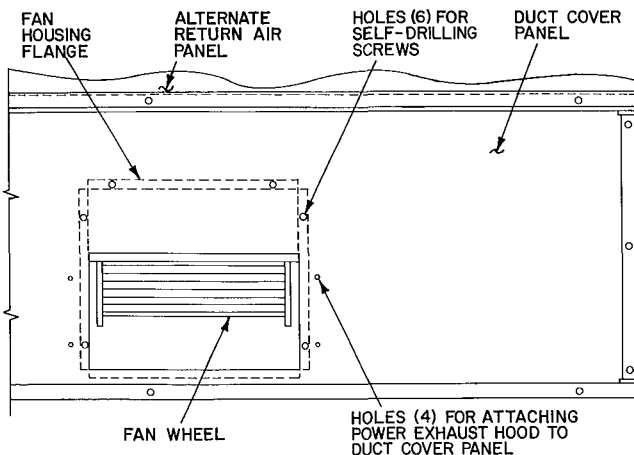

Fig. 12 — Duct Cover Panel Details
- 10. Using screws removed in step 1: Install insulated accessory duct cover panel(s) (Fig. 12). Panel openings should be free of insulation. Attach duct cover panel(s) to unit at bottom and sides.
11. Using #10-16 x 7/16-in. self-drilling screws (or by drilling holes), secure duct cover panel(s) to fan housing flanges as shown in Fig. 12. Six self-drilling screws are required per fan housing.
12. Using #10-24 x 3/4-in. Type D screws from package, install exhaust hoods to duct cover panel(s). See Fig. 12 and 13.